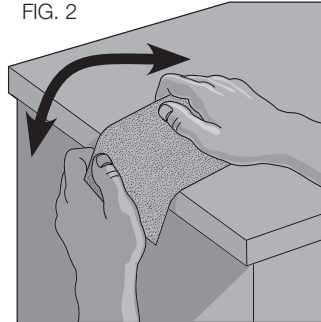

FIG. 3
- Release the rear paper clamp (F) by pulling up on the side clamp levers (G) and disengaging them from the tabs (H) on the base plate/pad (D) as shown in Figure 3.